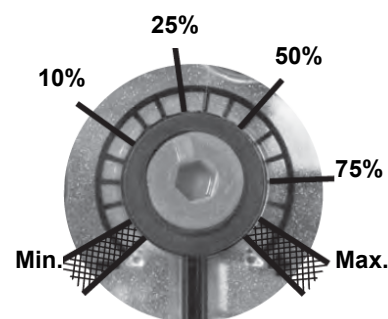

Fig. 3
- Change the filter if the pressure difference between pressure connection 1 and 3 (Fig. 1-Fig. 3) is  $\Delta p > 10$  mbar.